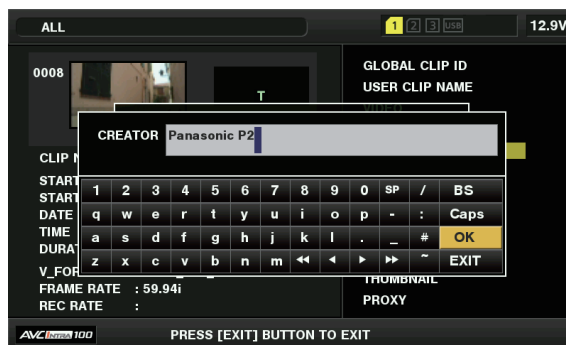

Fig. 2
- The input window (software keyboard) for modifying metadata is displayed. (Fig. 2)